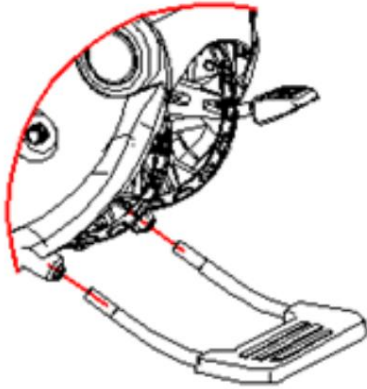

Fig. 4-1: Assembly of the footrest
1. Insert the metal tubes into the footrest and connect them to the main body tube until the push button clicks into place. Check that the wheels are correctly connected by gently pulling on them (Fig. 4-1).